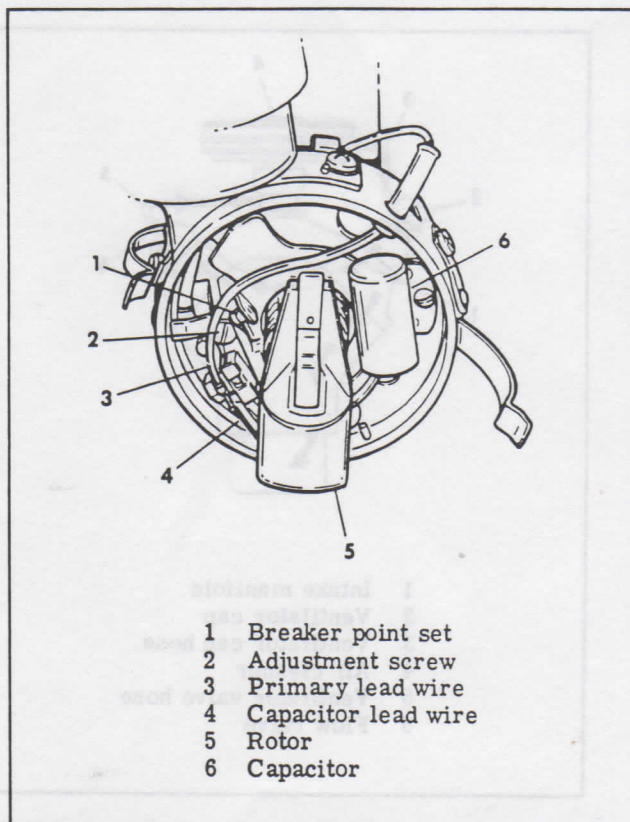

Figure 6-1. Distributor Adjustment
6-15. DISTRIBUTOR. (G-40-E models, see figure 6-1) The engine ignition tune-up is mainly concerned with the distributor. The following procedures are not a tune-up but can be used to eliminate engine trouble:
- e. If a capacitor tester is available, remove the capacitor (6, figure 6-1) and test for a capacitance of 0.250 to 0.285 microfarads. Replace the capacitor if it is outside this value.